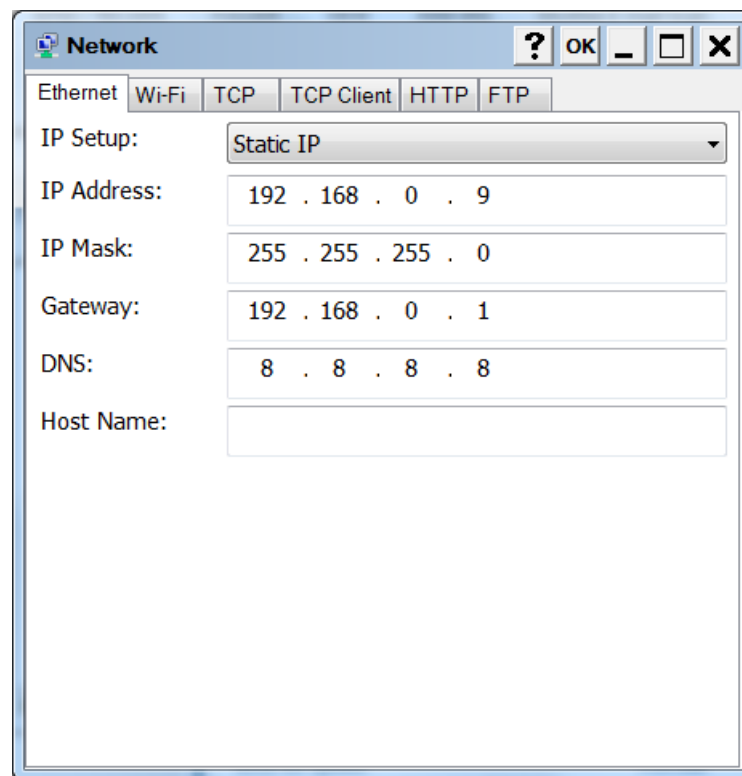

Figure 20: TRU – Network Screen
2. In TRU, click **Receiver Settings** ► **Network**. The **Network** screen appears and the **Ethernet** tab is active (Figure 20).